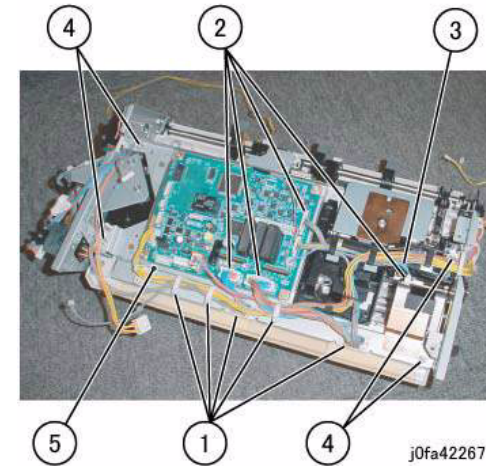

Figure 2 Removing the Bottom Plate
9. Remove the Bottom Plate (Figure 2):